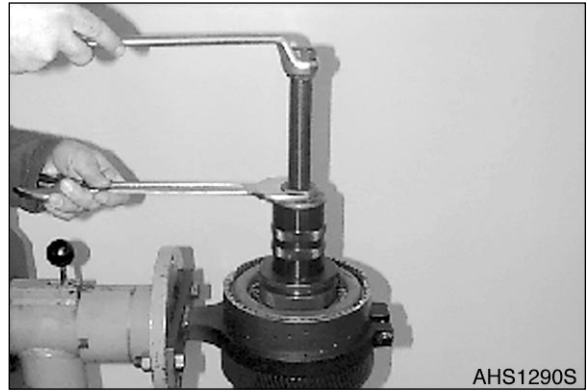

Figure 169
17. Pull tapered roller bearing from plate carrier (Figure 169).